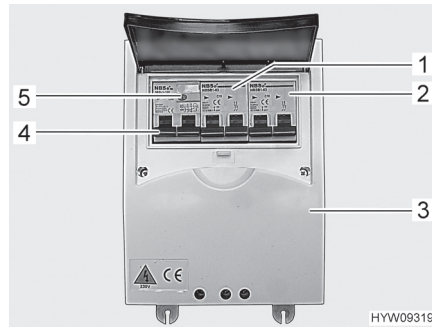

Fig. 138 Safety cut-out and FI-switch (230 V fuse box)
- ▷ The second safety cut-out (Fig. 138,2) is optional. Whether this safety cut-out is present or not depends on the equipment of the vehicle.
- Switch off both safety cut-outs (Fig. 138,1 and Fig. 138,2) in the fuse box (Fig. 138,3).
- When the vehicle is connected to the 230 V supply, press the test button (Fig. 138,5) of the fault current protection switch (FI-switch) (Fig. 138,4) in the fuse box (Fig. 138,3). The fault current protection switch must trip.
- Switch the fault current protection switch (Fig. 138,4) back on again.
- Switch off both safety cut-outs (Fig. 138,1 and 2) in the fuse box (Fig. 138,3).